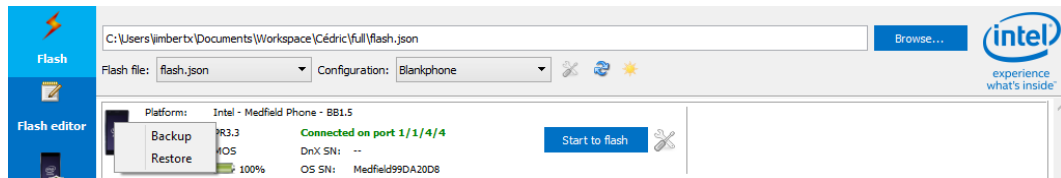

Figure 4-15: Backup/Restore contextual menu
1. Right click on the "device" icon of the device's widget (see Figure 4-15);